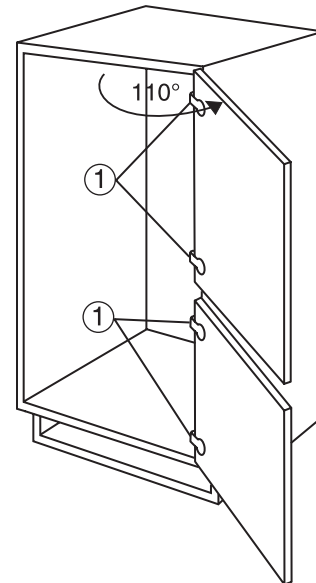

Figure 9
- Use high quality inside hinges (**Fig. 9, 1**) to mount the doors to the cabinet. The hinges should be adjustable to make sure the doors fit squarely when they are closed.